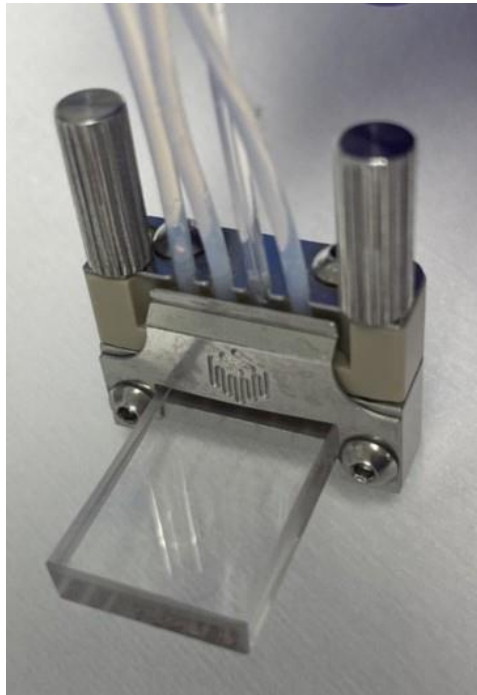

Figure 31 Chip assembled with Top Interface and Linear Connector
Step 4: Attach the Linear Connector and tighten the screws in tandem to ensure even compression of the gasket across the Chip inlets. Tighten until hand tight – tools should not be used (Figure 31).